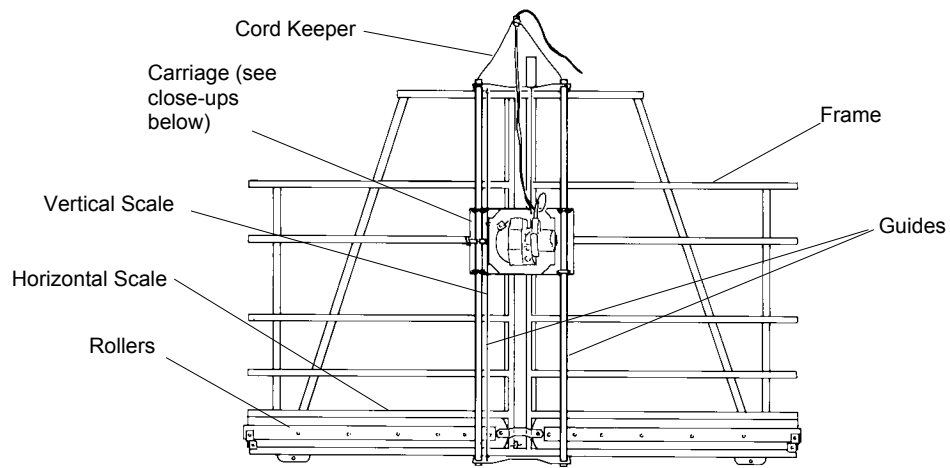
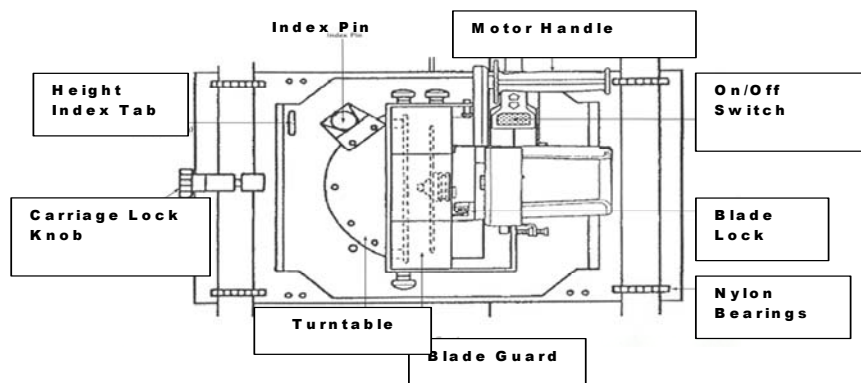
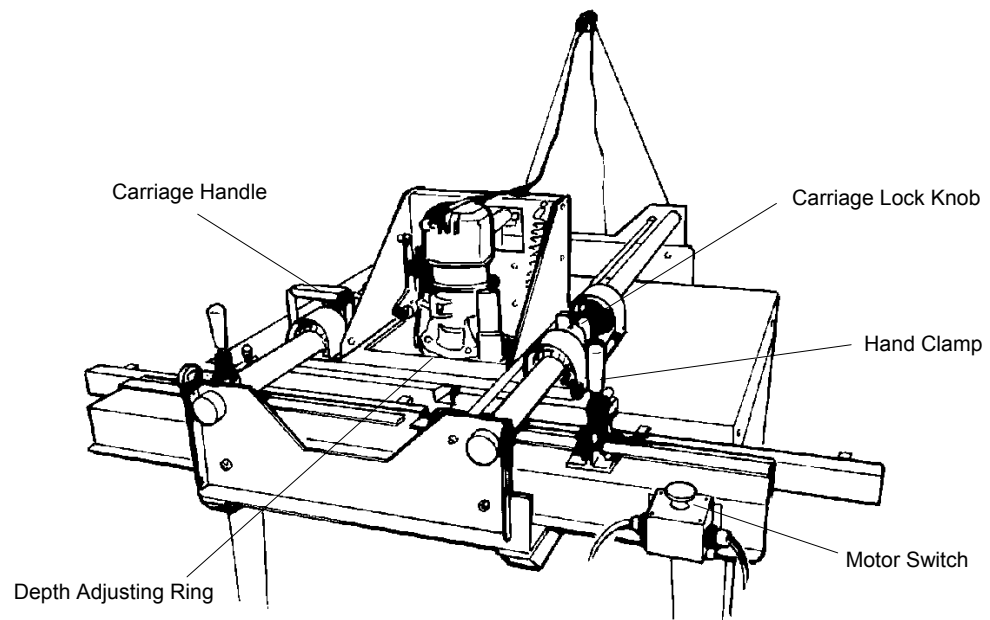

Figure 12: Main Components of Saw or Router (Model H-5 Saw Shown)
Figure 13: Carriage (Models C-4, H-4, H-5, and H-6 Saws)
Figure 18: Model TR-2 Router
3. Hold the carriage securely while you loosen the red carriage lock (Figure 13 through Figure 18). Raise the carriage until the hole in the top of the carriage aligns with the eye in the end of the counterbalance cable, making sure the cable is **behind** the carriage. Then lock the carriage rip lock.
Refer to Figure 12 through Figure 18 for the location of operator controls on each model saw and router.